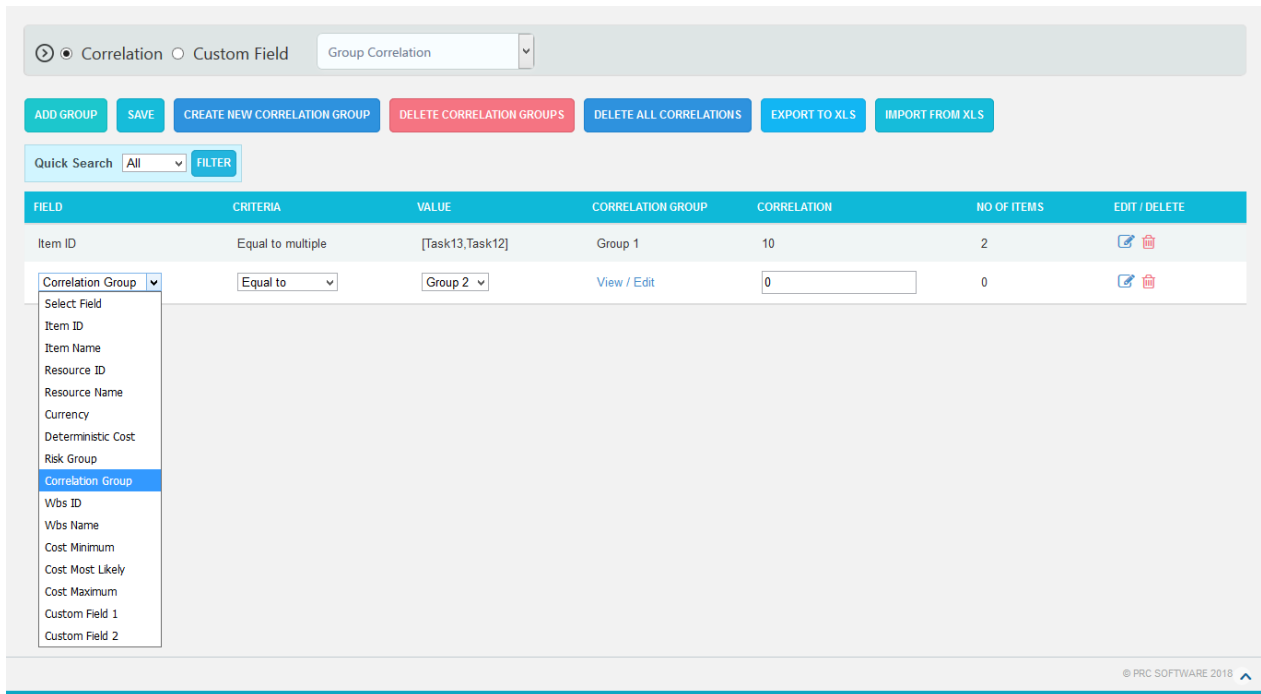

Figure 2.58
The newly created correlation group is shown in the value combo and used to filter the tasks by selecting correlation group from the field dropdown with its criteria. (Figure 2.58)
2. Click **DELETE CORRELATION GROUPS** button. (Figure 2.58)